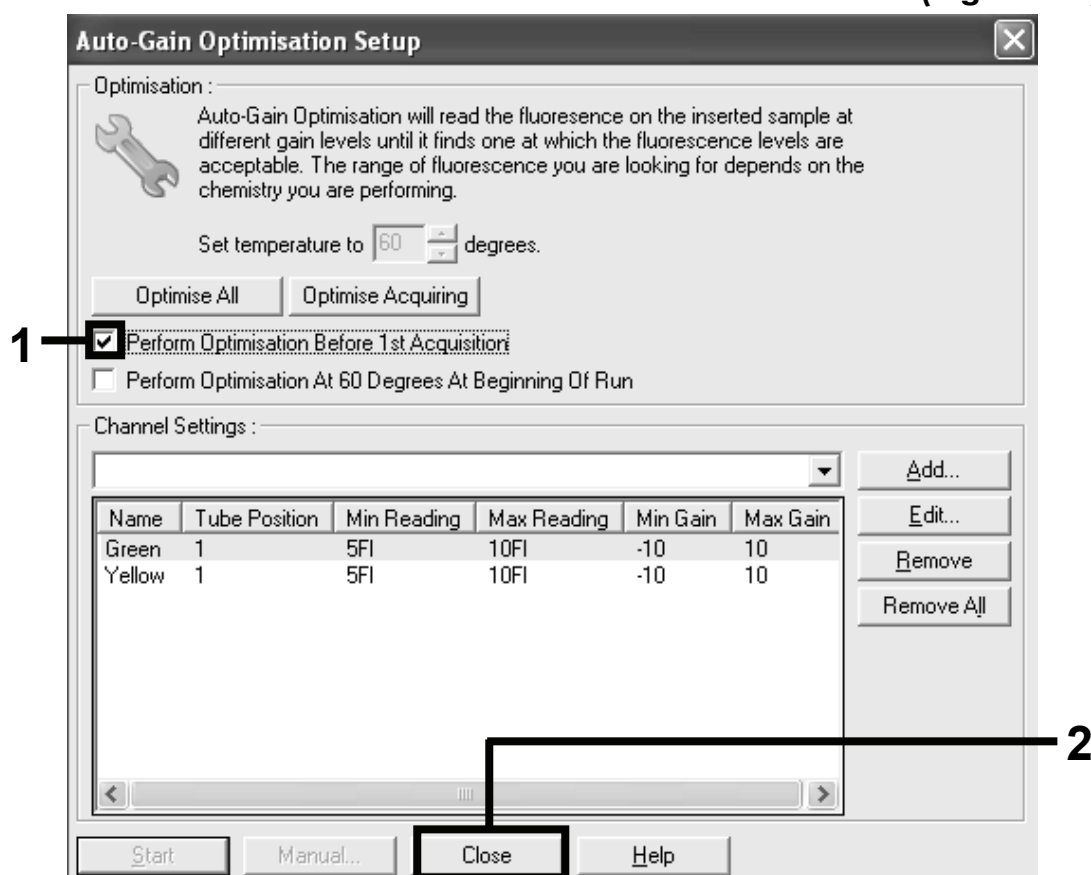

Figure 13. Selection of green and yellow channels.
21. Check the box for “Perform Optimisation before 1st Acquisition”, and then click the “Close” button to return to the wizard (Figure 13).